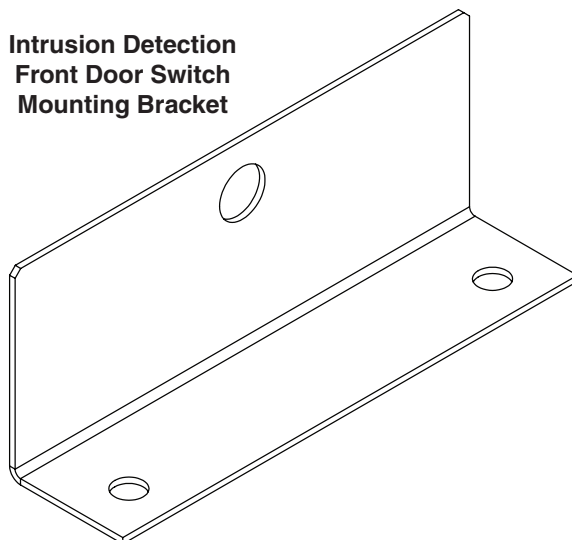

Figure 25 Intrusion Detection Front Door Switch Mounting Bracket
- One front door switch mounting bracket (see detail Figure 25)